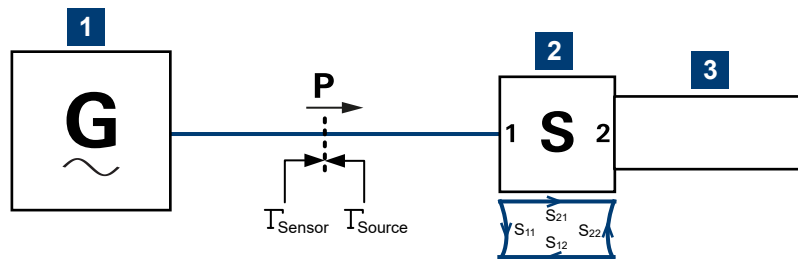

Figure 9-6: Correction of interactions between signal source, S-parameter device and sensor
The interaction between the complex reflection coefficient Γ_{sensor} of the sensor and the reflection of port 2 is expressed by s_{22} , see Figure 9-6. If the S-parameter correction is enabled, this interaction is always considered, regardless whether gamma correction is performed or not.
- S-parameter device if the S-parameter correction is enabled, S11 in Figure 9-6.